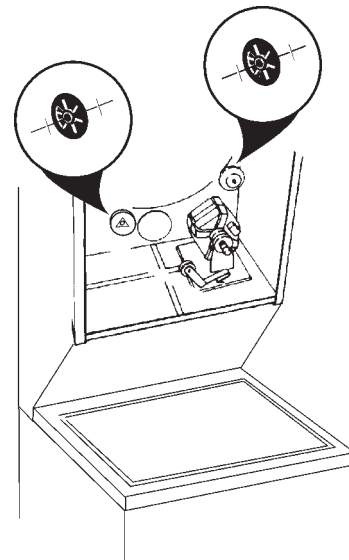

Figure 8
1. Remove triangular rings from roller shaft by using a screwdriver to pry the rings off the shaft. Remove rollers and the remaining triangular rings. See Figure 8.